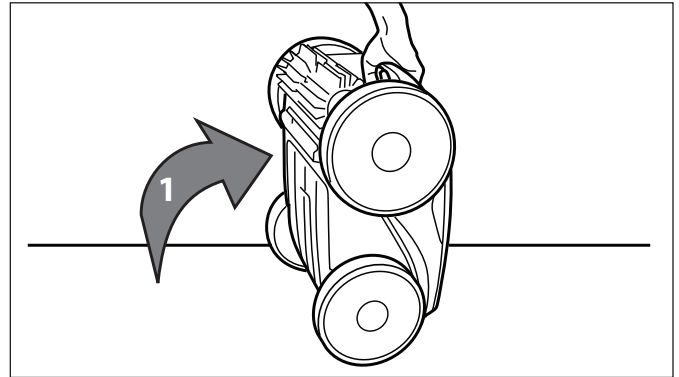

Figure 31. Clean in Upright Position
1. Lift the cleaner to a vertical position so that the handle is up. Refer to Figure 31.